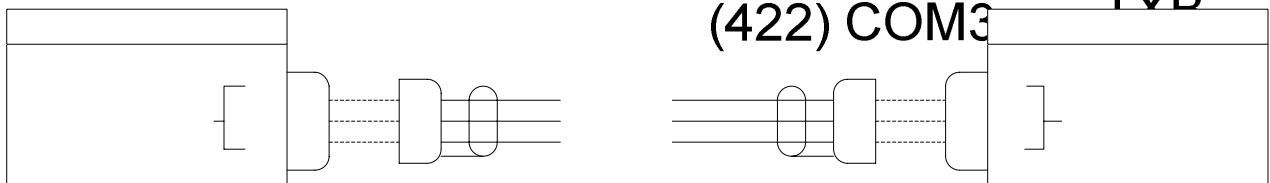

Figure 2 PFD to MFD EFIS Interconnect Cable
14. Add new wires per Figure 2.
4. Using a DMM, perform a continuity test of the PFD to MFD EFIS Interconnect. Verify all wires are installed correctly per Figure 2.